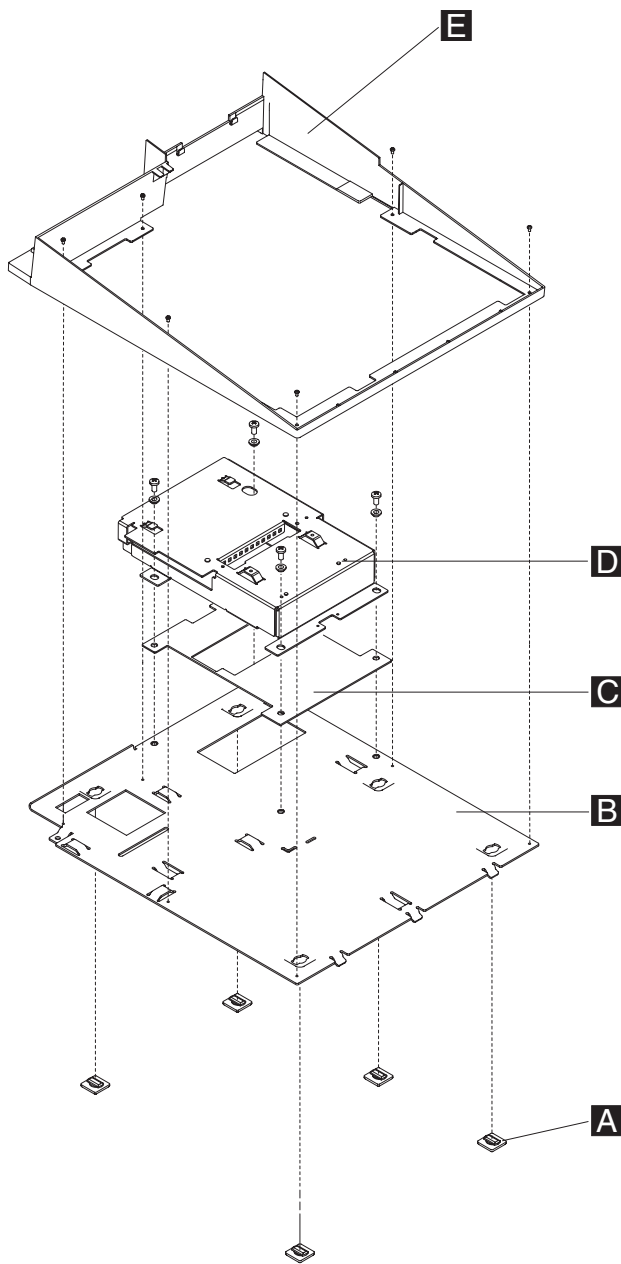

Figure 54. Countertop keyboard-integration tray assembly
2. For a free-standing unit, ensure that the four rubber feet **A** are installed on the bottom of the countertop keyboard integration tray (as shown in Figure 54 on page 86).
- a. Remove the fence **E** from the countertop keyboard-integration tray by removing the screws as shown in Figure 54 on page 86.
- c. Remove the rubber feet **A** located on the bottom of the integration tray. See Figure 54 on page 86 for location of feet.